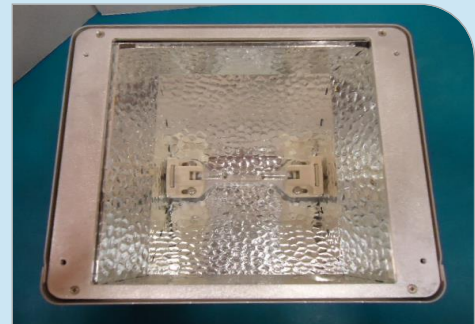

Figure 2. Screw Holes in the Filler Plate
6. Align the Spacers, Mounting Plate, and screws carefully. Insert the M3 x 16 mm screws into the Filler Plate to secure the Glass Shield (Figure 2).